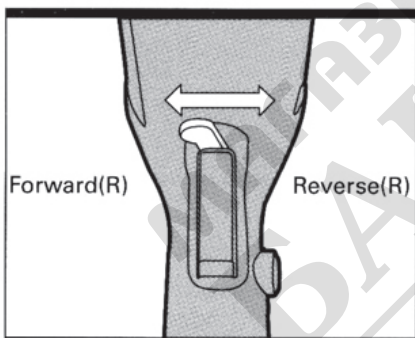

Fig 4
3. Changing rotational direction (see fig4)